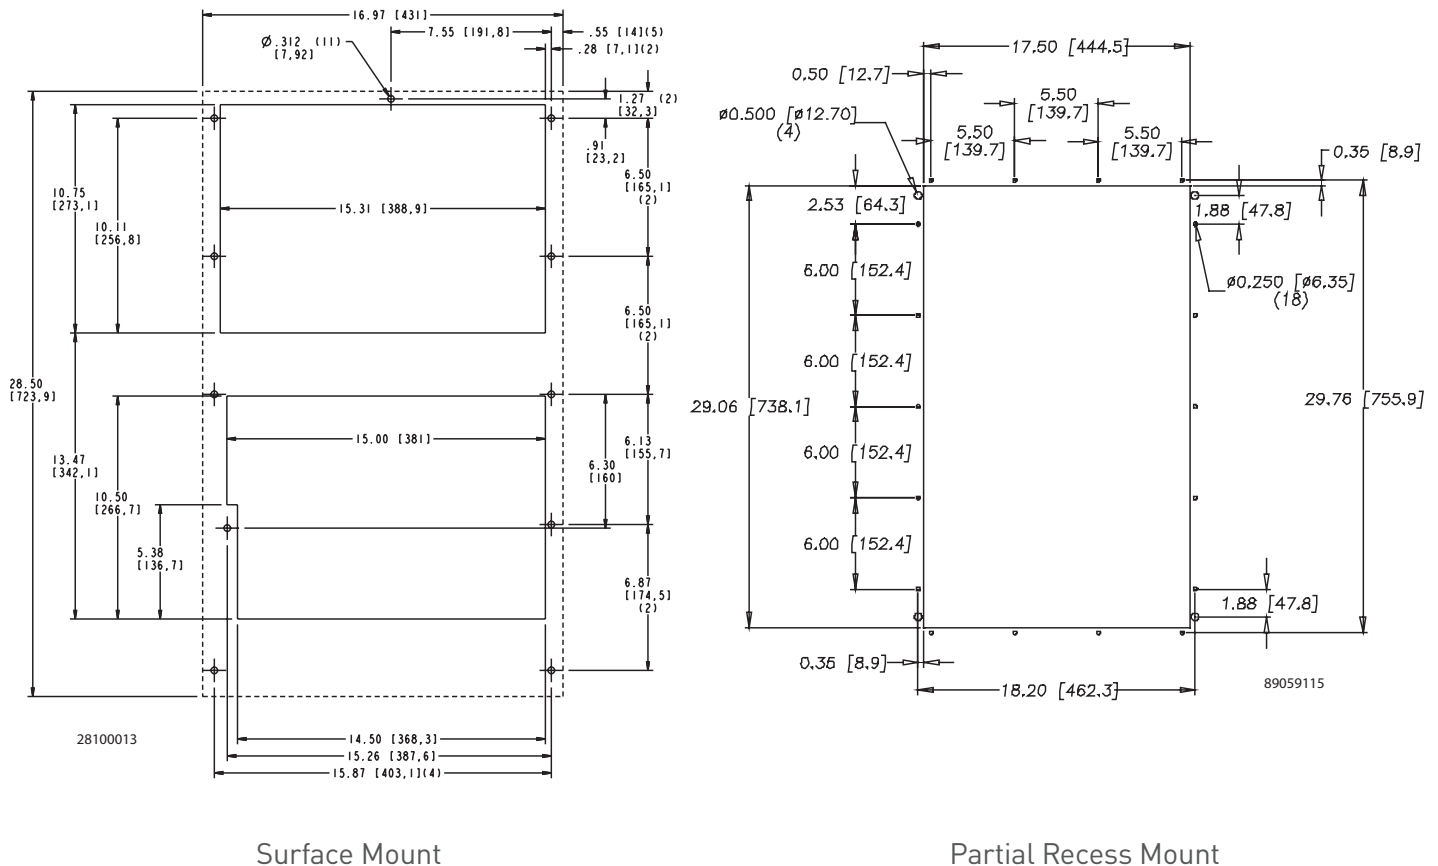

Figure 1
2. Using the mounting gasket kit provided with the unit, install gaskets to the air conditioner, see Figure 1.
4. Allow unit to remain upright for a minimum of five (5) minutes before starting. CAUTION! Air conditioner must be in upright position during operation.